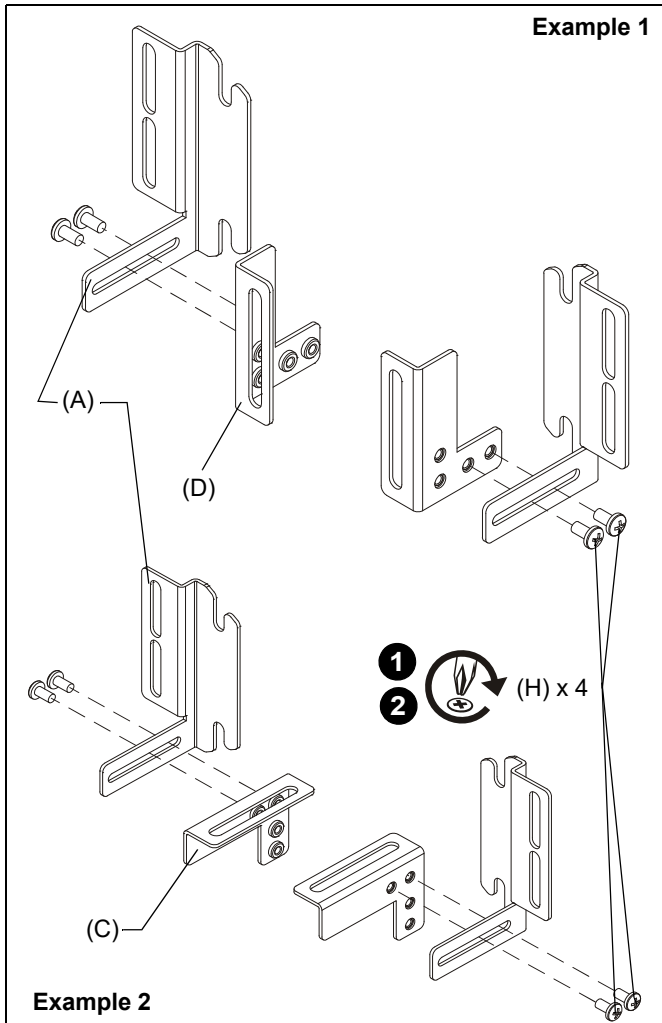

Figure 1
- Ensure that component is attached to brackets AT MINIMUM by using the hook and loop pieces (K).
1. Attach one retaining bracket (C) to one end bracket (A) using two 10-24 x 3/8" Phillips pan machine screws (H). (See Figure 1)
2. Repeat Step 1 for remaining retaining bracket (D) and end bracket (B). (See Figure 1)